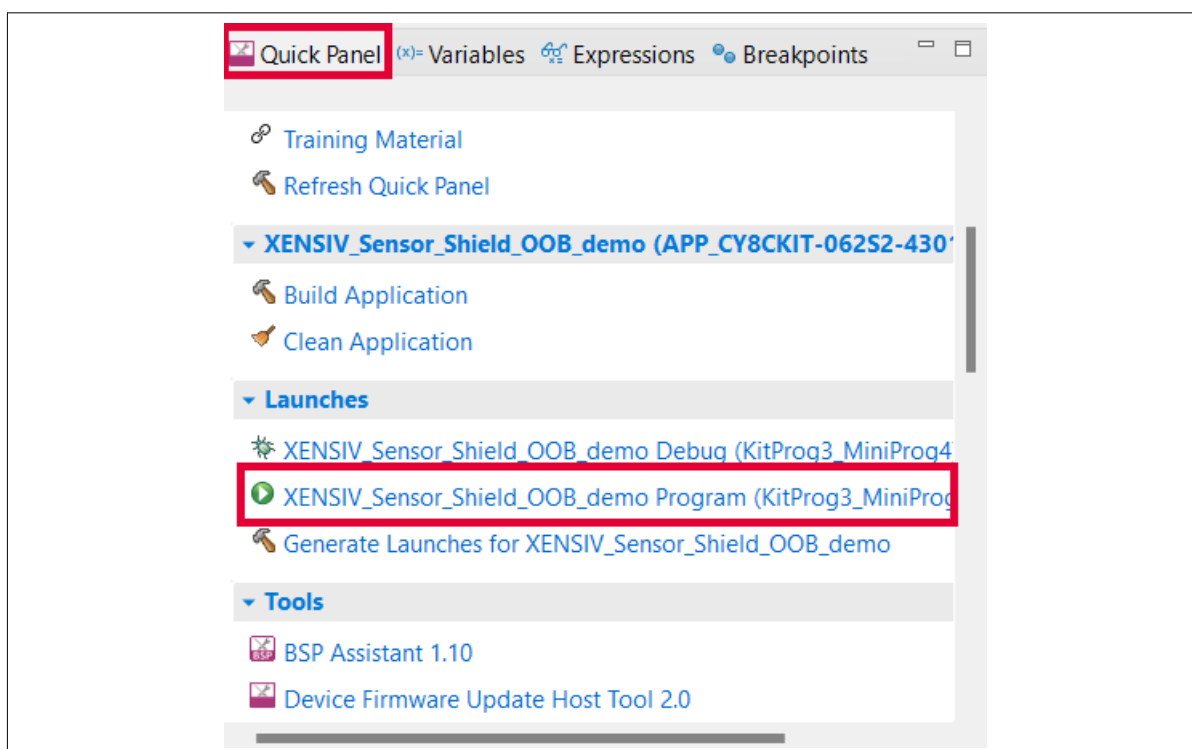

Figure 6 Programming in ModusToolbox™
- b. In the Quick Panel, scroll to the **Launches** section and click the **<App_Name> Program (KitProg3_MiniProg4)** configuration, as shown in Figure 6